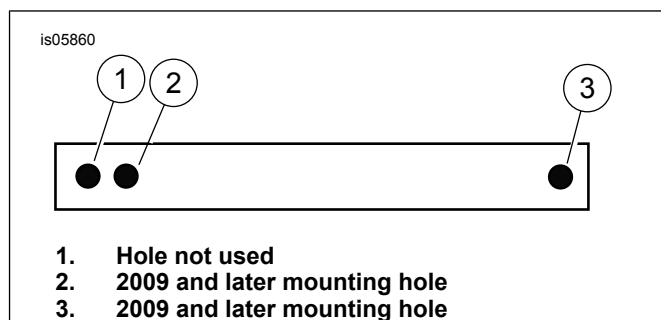

Figure 3. Grab Strap Mounting Holes
4. See Figure 3. Install the grab strap using the holes shown. Secure with brackets and screws removed earlier.